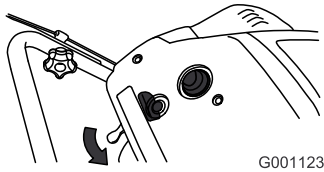

Figure 12
2. Move the choke lever to the right (Figure 12).